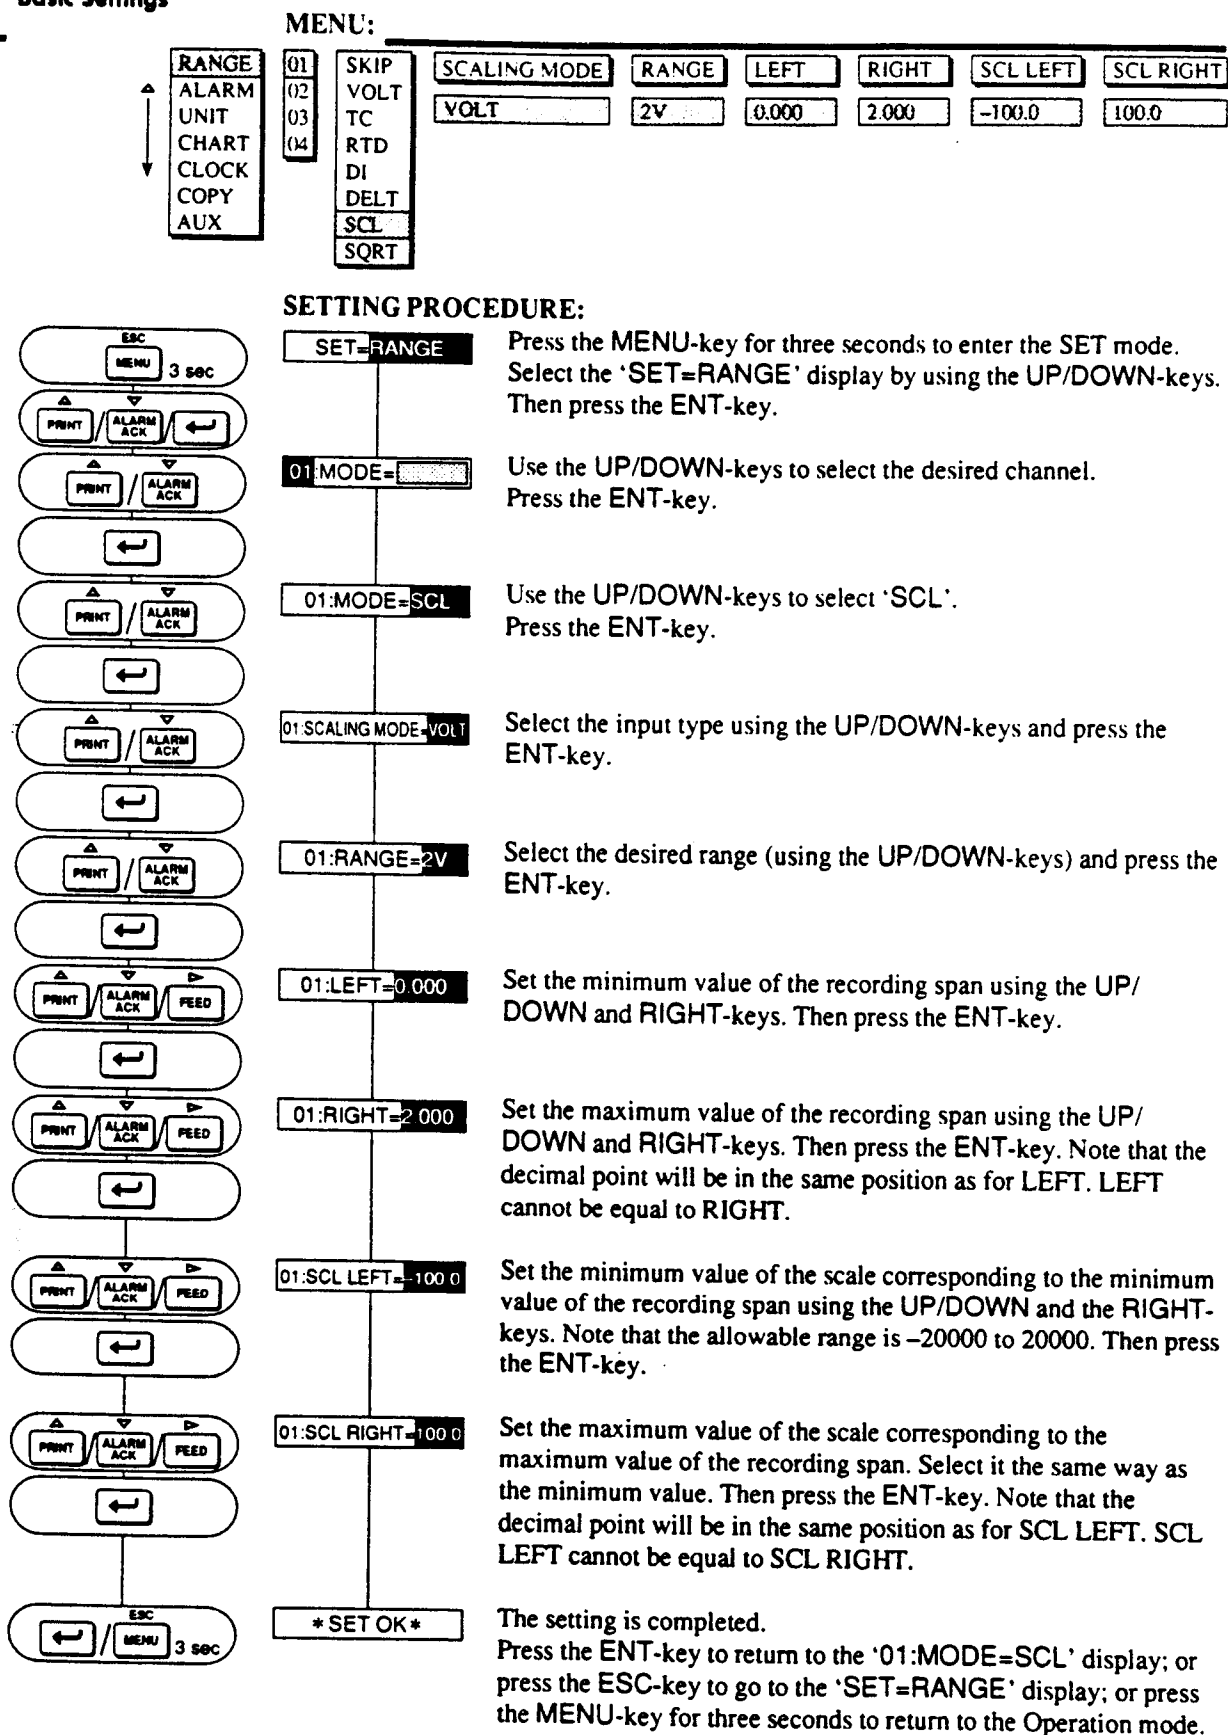

Figure 5-6. SCL Setting
To assign a different scale to the measured data, the range can be set as described in Figure 5-6. Note that the measured data that can get a different scale must be of the voltage (VOLT), thermocouple (TC), or resistance temperature detector (RTD) type. To assign a unit to this new scale, refer to UNIT setting (see Section 5.3).